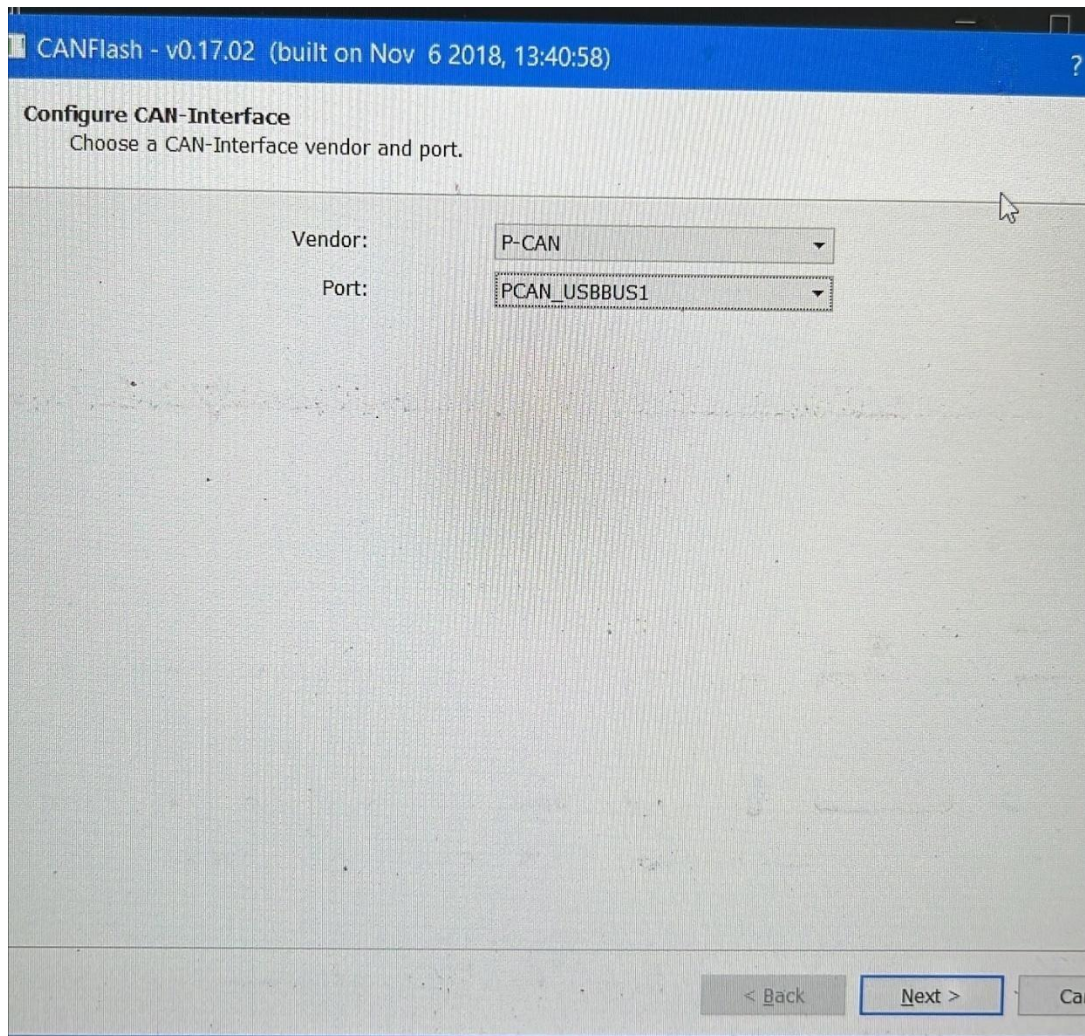

Figure 4: CANFlash PCAN setting
29. Once CANFlash is open, select **P-CAN** under the Vendor drop-down menu. Select **PCAN\_USBBUS1** under the Port drop-down menu (see figure 4 below). It's important to ensure the physical connection to the laptop matches the same port as dictated by the CANFlash setup. Click **Next** when complete.
37. Once CANFlash is open, select **P-CAN** under the Vendor drop-down menu. Select **PCAN\_USBBUS1** under the Port drop-down menu (see figure 4 above). It's important to ensure the physical connection to the laptop matches the same port as dictated by the CANFlash setup. Click **Next** when complete.